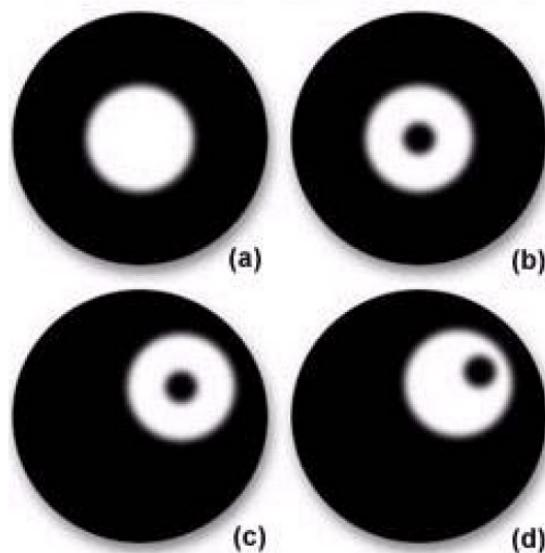

Figure 5 Centering darkfield condenser
- It is often advantageous to use a low power 10x objective when centering high numerical aperture darkfield condensers. When viewing a specimen with the 10x objective while slowly raising and lowering the condenser, a point will be reached where a bright spot will appear in the field of view as illustrated in Figure 5(a). As the condenser is slightly raised or lowered, a dark spot similar to the one shown in Figure 5(b) will appear, if the condenser is properly centered. In cases where the condenser is not properly aligned and centered, a typical field of view might look like that shown in Figure 5(c). The ideal and correct positioning of the condenser is illustrated in Figure 5(a), and the condenser should be adjusted until the field of view appears in this manner, with the condenser centering screws.